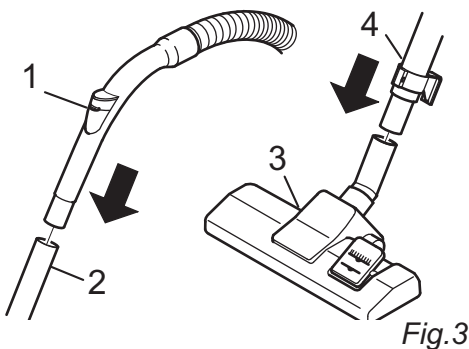

Fig. 3
2. Push the handle (Fig. 3/1) into the upper end of the telescopic tube (Fig. 3/2).
3. Push the floor nozzle (Fig. 3/3) onto the lower end of the telescopic tube (Fig. 3/4).